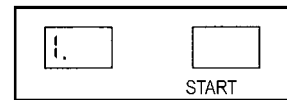

Fig. 29
- Release of the 'C' key, the display indicates 'step 1' (Fig. 29).